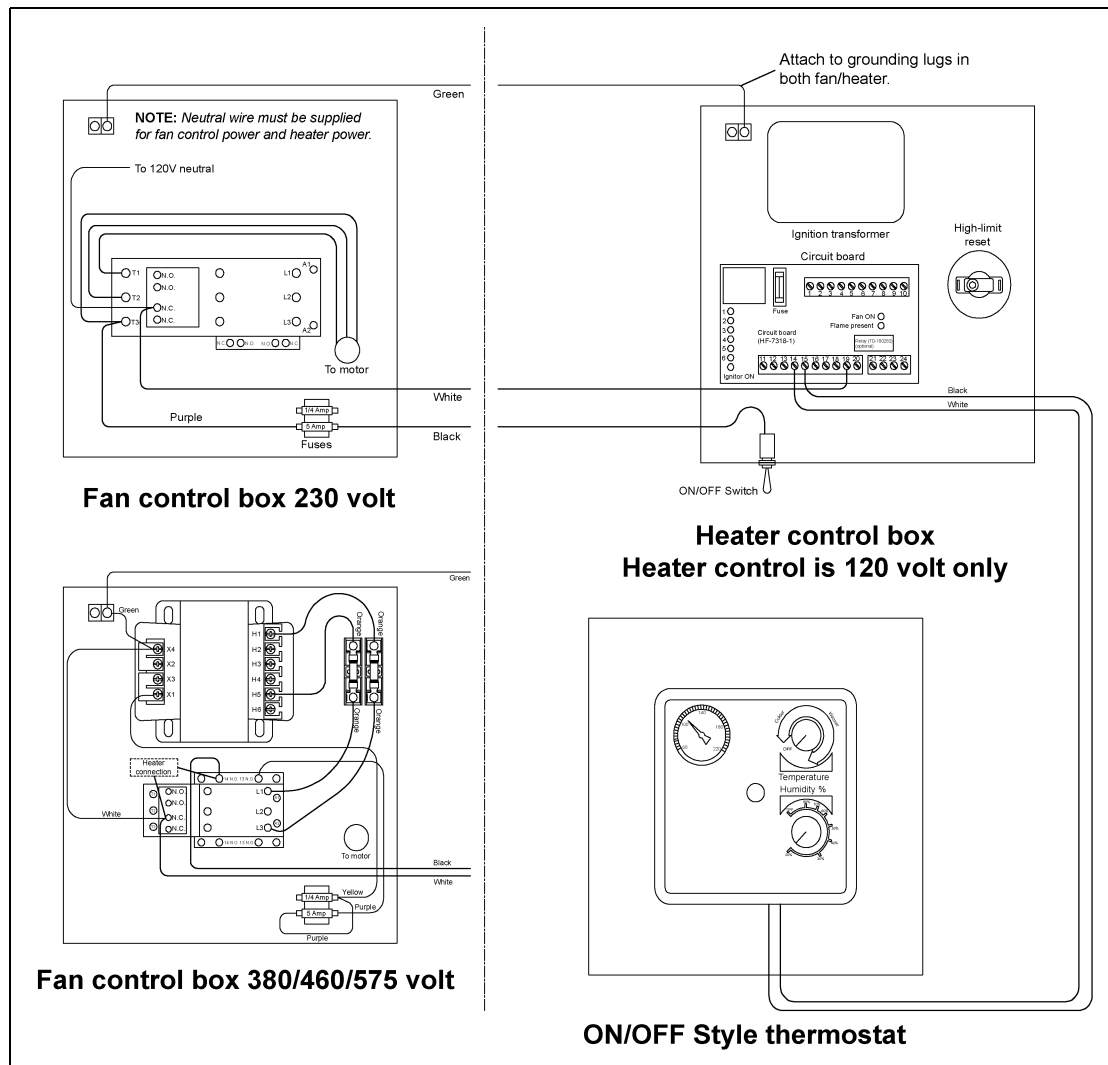

Figure 4C Illustration of deluxe Vane Axial Heater wiring installation on a fan unit.
2. Make field connections in fan box as shown in Figure 4C.
3. Connect deluxe thermostat control as shown in Figure 4C.